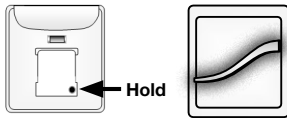

Fig. 2
- B. Press and hold the program button on the secondary remote control until the LED light flashes green (about 3 seconds), then release the button. (Fig. 2.) Both the primary and secondary remote LEDs will flash green, then turn off confirming inclusion.